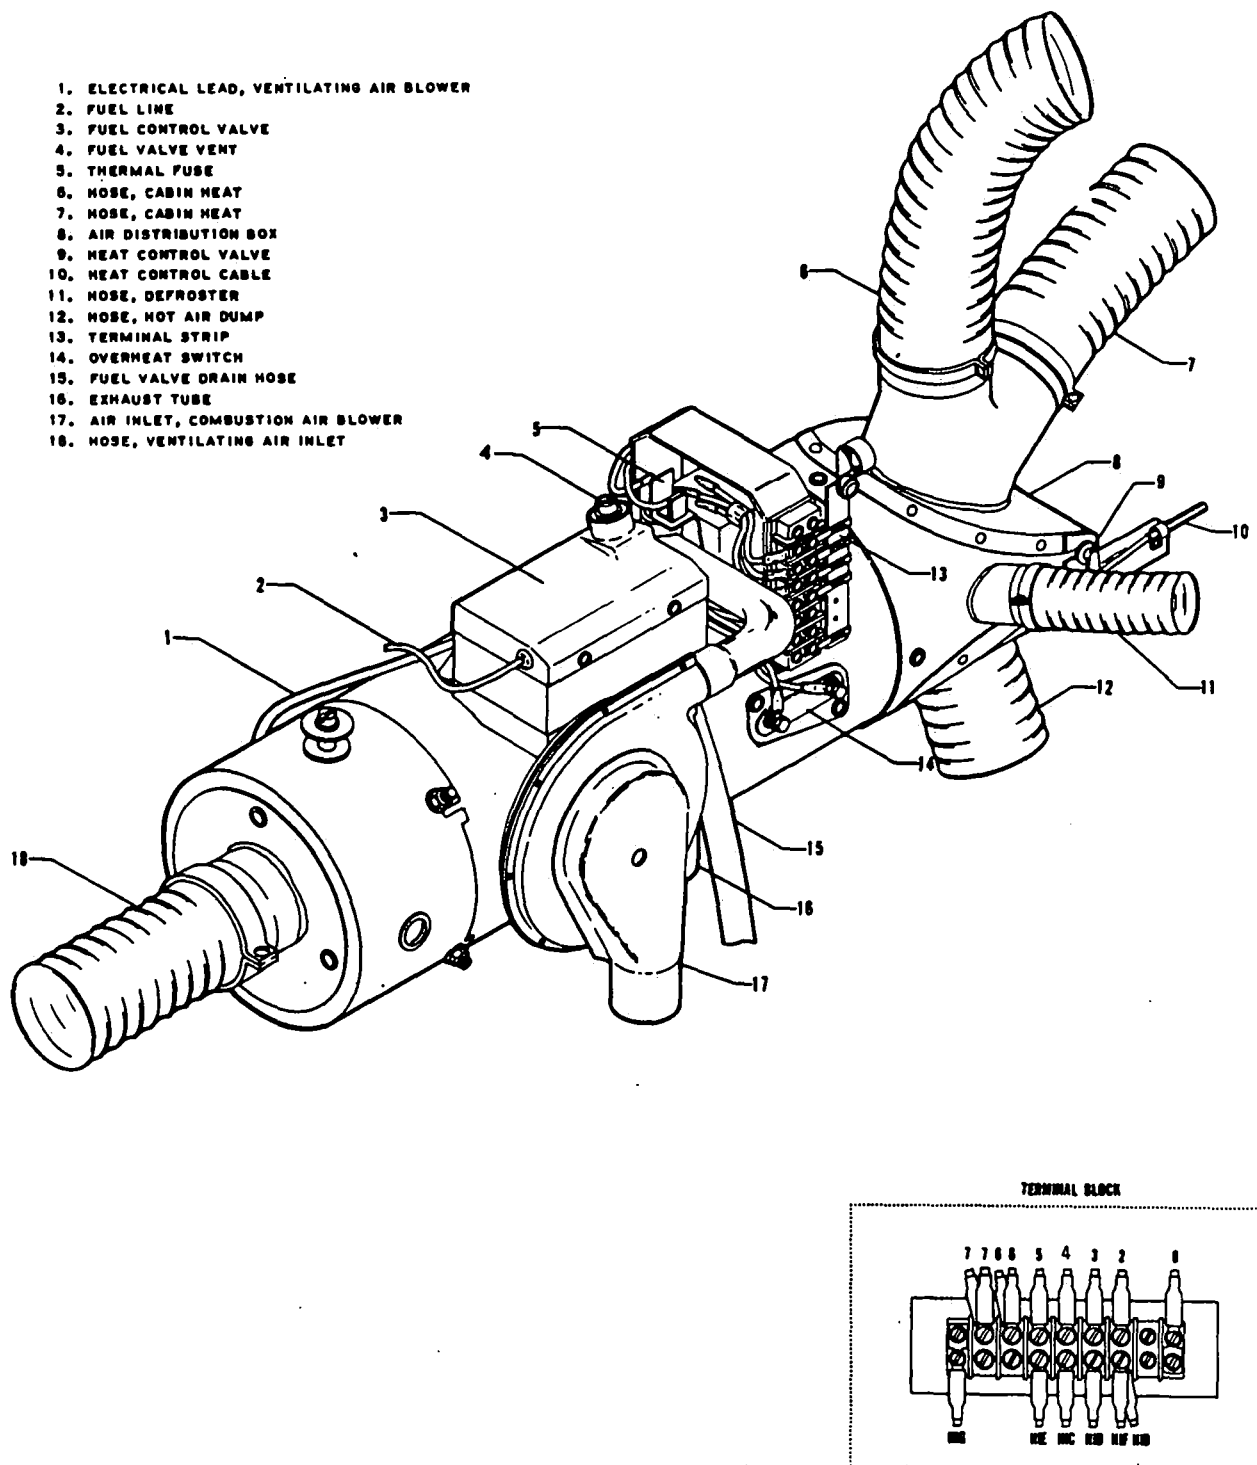

Figure 13-4. Heater Installation (South Wind)
**13-8. REMOVAL OF HEATER. (Refer to Figure 13-4.)**
- c. As desired, remove the distribution box (8) from the aft end of the heater by removing the box attachment screws and sliding the box off the heater or removing the cabin heat hoses (6) & (7), defroster hose (11) and hot air dump hose (12) from the air distribution box by releasing the hose clamps.
- d. If the air distribution box was not removed from the heater, disconnect the heat control cable (10) from the left side of the air box.
- e. Note the hook-up of the electrical wires to facilitate reinstallation and disconnect the leads from the terminal block (23).
- f. Disconnect the fuel line (2) by removing the cover of the fuel control valve (3) to gain access to the fuel fitting.
- g. Disconnect the ventilating air inlet hose (18) from the forward end of the heater by releasing the attachment clamp.
- h. Slide the fuel valve drain tube (15) up from bottom panel of the nose section.
- i. Disconnect the cabin air control cable (10) where it is supported at the combustion air blower.
- j. Disconnect the combustion air inlet hose from the combustion air blower air inlet (17) by removing nut, washer and screw at the upper end of the tube.
**13-9. INSTALLATION OF HEATER. (Refer to Figure 13-4.)**
- a. Position the heater on its mounting brackets. Extend the exhaust tube (16) through and the lower end of the shroud, over the fitting that is attached to the bottom panel of the nose section.
- b. Connect the combustion air inlet hose to the combustion air blower (17) and secure with screw, washer and nut.
- e. Connect the ventilating air inlet hose (18) to the forward end of the heater and secure with clamp.
- f. Connect the fuel line (2) to the fuel control valve (3) and then replace valve cover.
- g. If the air distribution box (8) was not installed during heater build-up before installation, install the box and secure with screws.
- h. If the air heat control cable (10) was disconnected from the air distribution box (8), connect the cable at the valve arm and on the box. Position the cable wire and shroud to allow the valve full travel in the box. Ascertain that the wire attachment assembly rotates freely on the valve arm.
- i. Also if disconnected, connect the cabin heat hoses (6) & (7), defroster cable (11) and hot air dump hose (12) on the air distribution box and secure with clamps.
- j. Connect the electrical leads to the terminal block of the heater as shown in Figure 13-4.